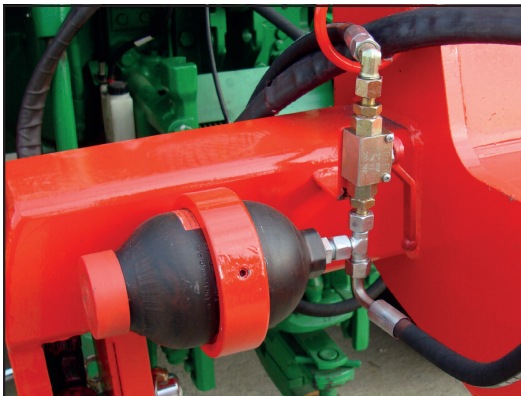

Figure 5
8- While transforming the plough to transport position, the plough must be raised to its maximum position by the tyre cylinder after the shut off valve opened on the cylinder (See Figure 5). Pressurize the cylinder till the plough is raised to its maximum position and then drop the pressure arm to its neutral position then move it slightly to opposite direction for few seconds. This will reduce the excessive pressure on the cylinder and act for the tyres as a shock observer while transporting the plough. Close the shut off valve on the tyre hydraulic system.
1. Open the shut off valves on the reversing cylinders (See Figure 4) and the tyre hydraulic system (See Figure 5) to transform the plough from butterfly position to working position.